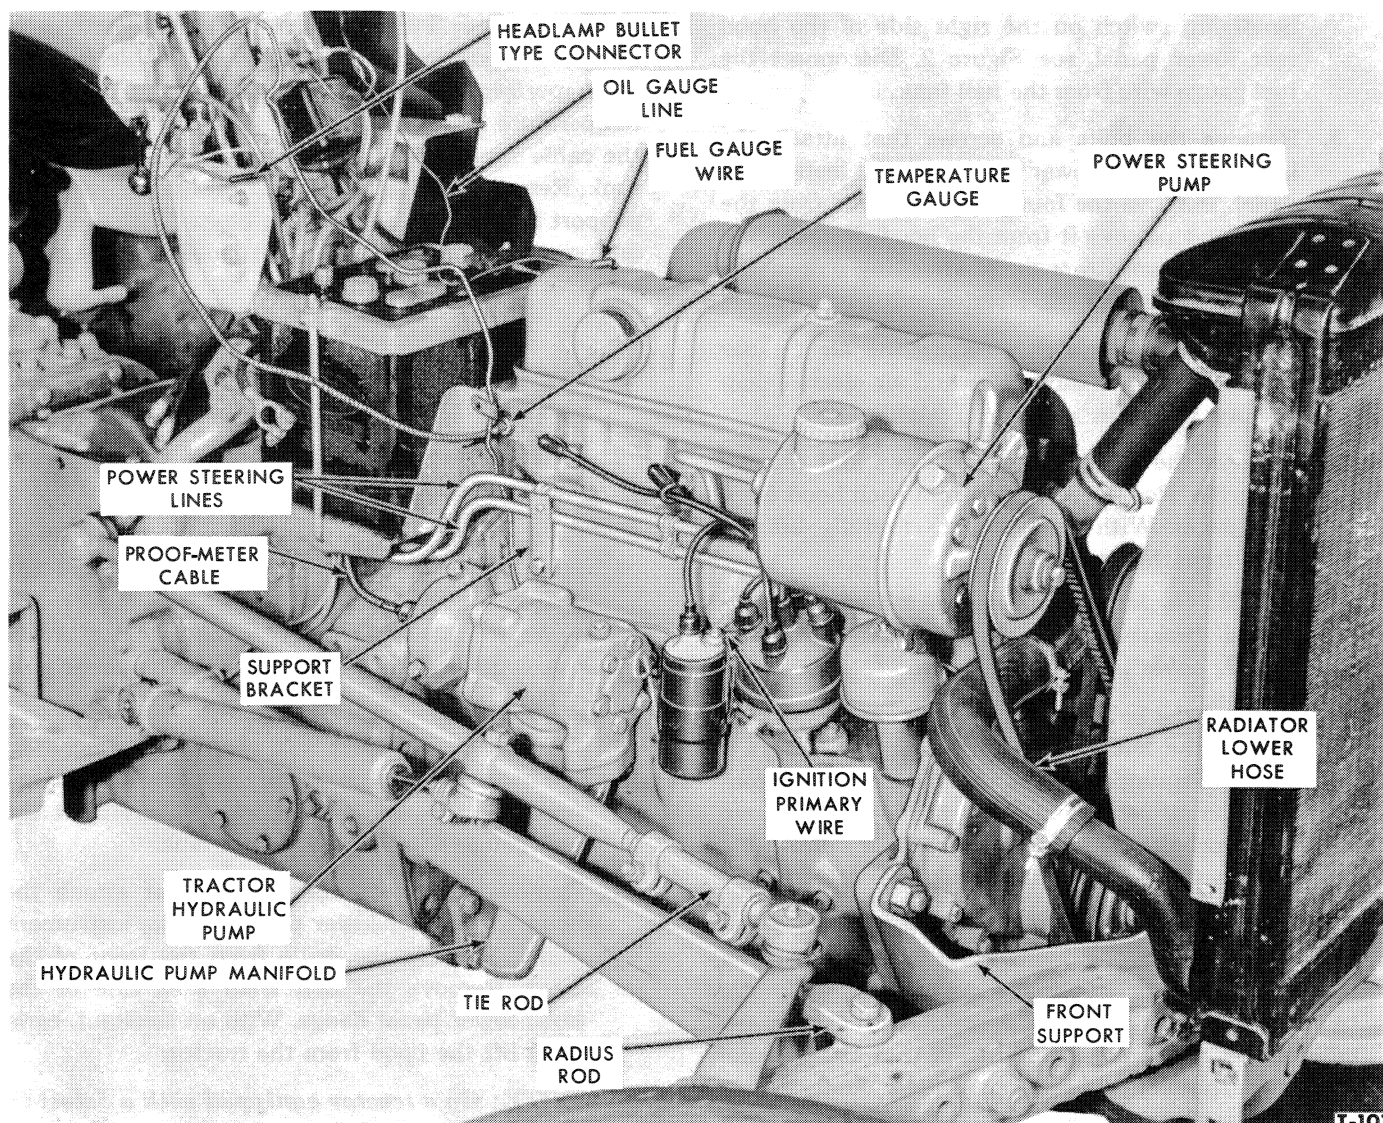
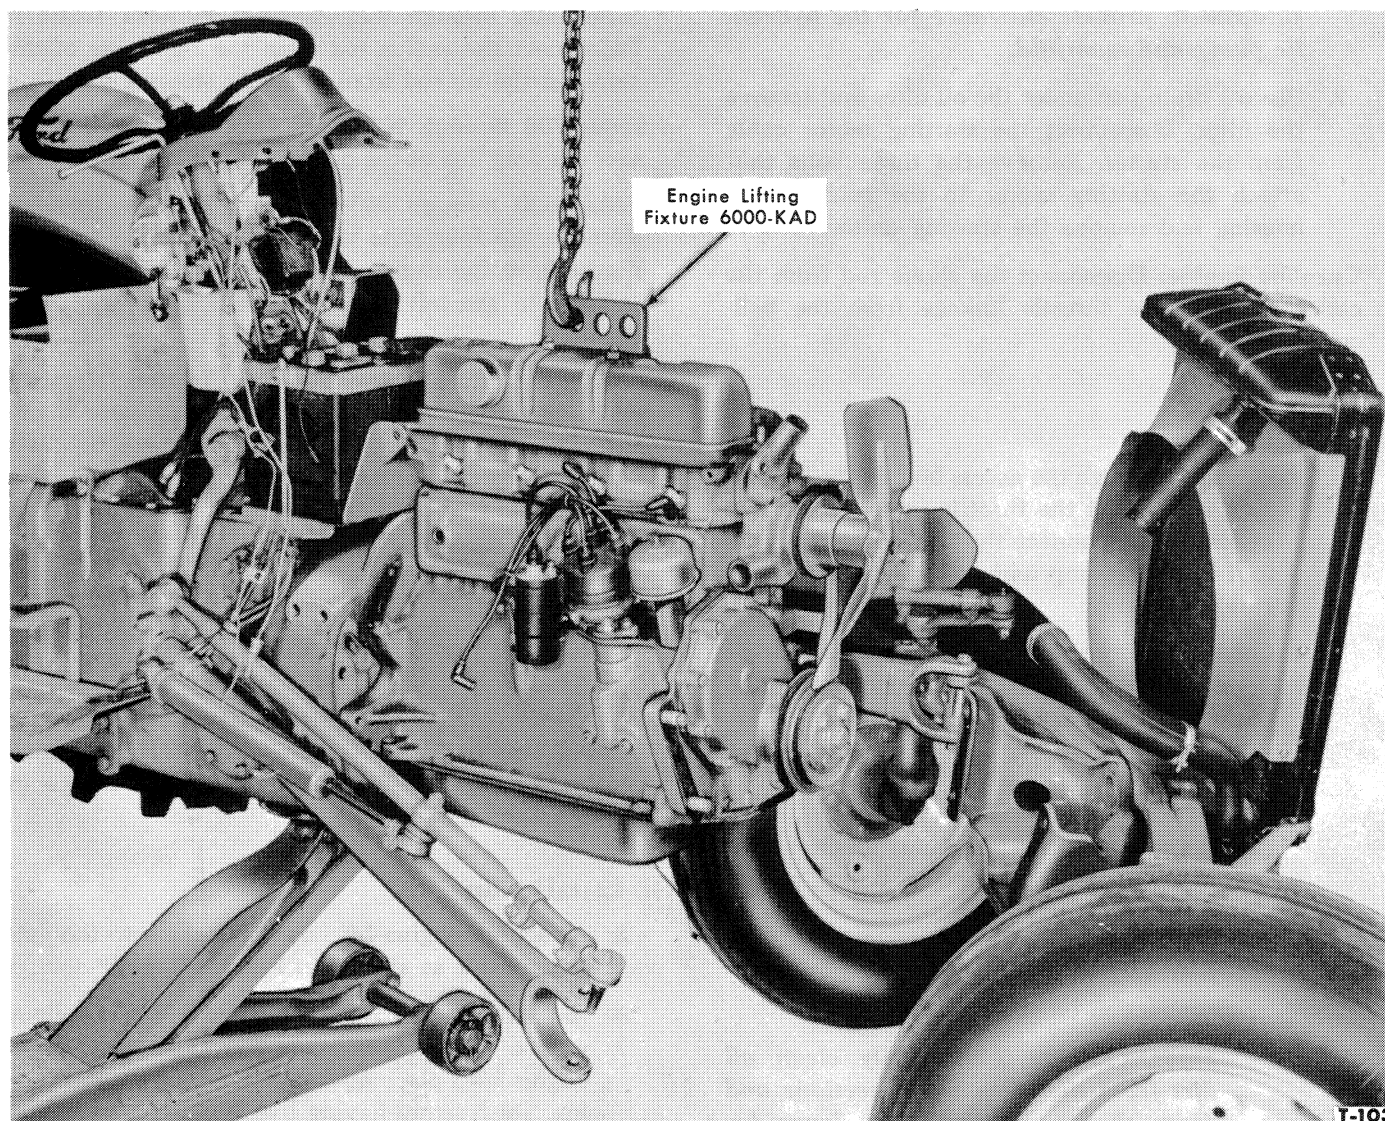

Figure 2—Right Side of Engine
Figure 4—Removing Engine
4. Disconnect the bullet type connector adjacent to the headlamp switch on the right side of the hood rear lower panel, see Figure 2. Disconnect the fuel gauge wire from the fuel tank gauge.
headlamp switch on the right side of the hood rear lower panel, see Figure 2. Disconnect the fuel gauge wire from the fuel tank.
4. Disconnect the bullet type connector adjacent to the headlamp switch on the right side of the hood rear lower panel, see Figure 2. Disconnect the fuel gauge wire from the fuel tank.
**Power Steering:** Disconnect the two hydraulic lines that connect the pump to the steering gear as shown in Figure 2. Remove the bolt that attaches the power steering hydraulic lines support bracket to the valve
- (2) Remove the two bolts that attach the fuel filter bracket to the cylinder head. Place a drain pan under the injection pump. Lift the injection pump with drive shaft, pressure lines and fuel filter from the engine as a unit.
**Series 600 through 801—General Purpose Tractors:** Remove the four nuts that attach the axle support, Figure 2, to the engine. Carefully swing the axle and radiator to the left side of the tractor as shown in Figure 4.
4. Remove the engine-to-transmission attaching bolts. Carefully lift the engine away from the transmission as shown in Figure 4. Mount the engine in an engine stand.
1. Attach an engine lift hook or a chain to the cylinder head as shown in Figure 4.
**Series 600 through 801—General Purpose Tractors:** Swing the axle support into place on the engine. Make certain that the radius rod is in place on the axle then install the four nuts that attach the front support to the engine, see Figure 2. Install the radius rod to axle attaching bolt. Connect the tie rod to the steering arm.
6. Connect the water temperature gauge line to the engine. Connect the Proof-Meter cable to the hydraulic pump, see Figure 2.
10. On a tractor equipped with power steering, hold the pump and lines in place on the engine and install the two pump mounting bolts. Connect the two hydraulic lines to the steering gear (600 through 801 Series). Connect the hydraulic line bracket to the valve cover with the attaching bolt, see Figure 2.